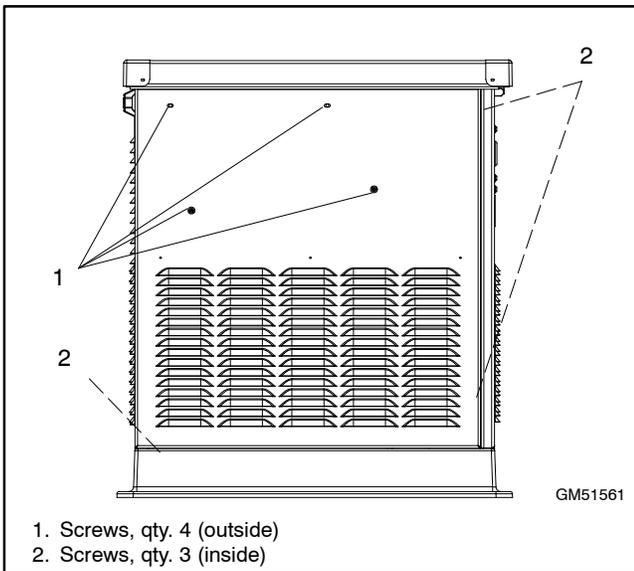

Figure 6-4 Front Panel Mounting Screw Locations
- Remove the front panel. See Figure 6-4.